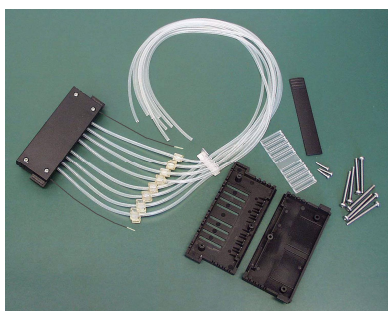

Figure 5-41. Parts belonging to the upper part of the dispensing cassette
6. Once the lower part of the dispensing cassette has been fitted, place the remaining parts belonging to the upper part of the dispensing cassette onto the laboratory table (Figure 5-41).